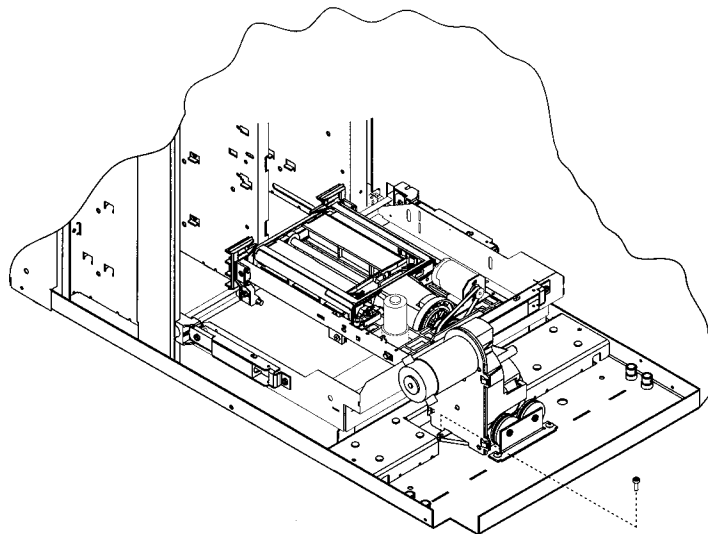

Figure 41: Vertical Motor Gear Box Mounting Screw
9. Remove the drive motor and gear box (see Figure 41).